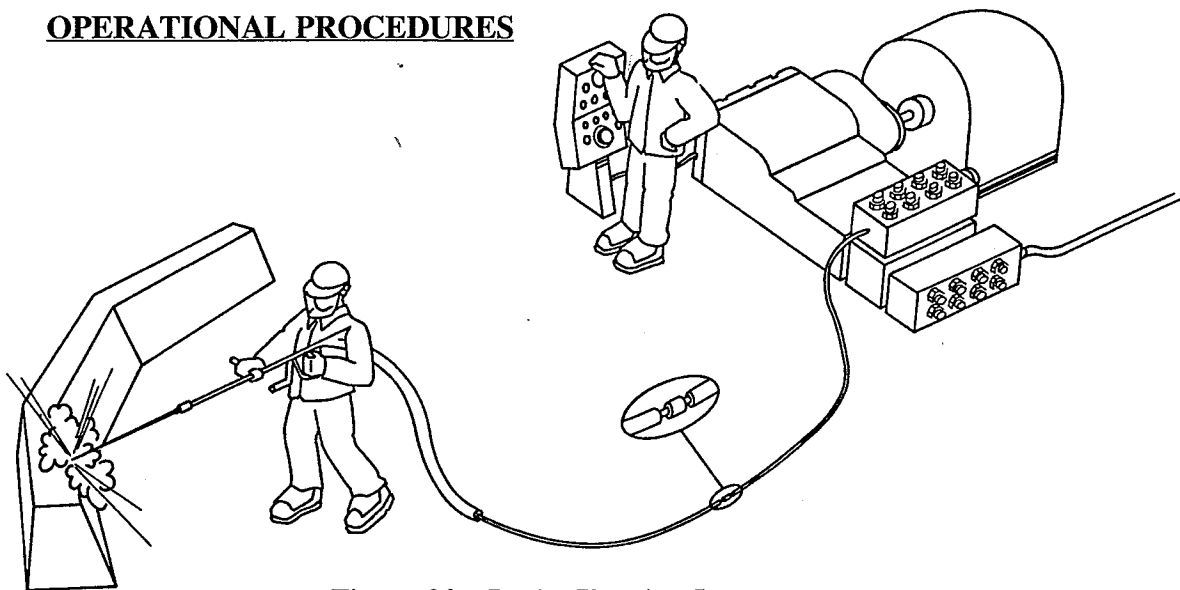

Figure 20. Basic Cleaning Layout
10.1.1 **Start up** - The Pump Operator **shall** not start the unit (Figure 20) until told to do so, by word or signal, by the Nozzle Operator. Before bringing the unit up to pressure, on a second signal the Pump Operator **shall** ensure that the jetting nozzle is either directed at, or positioned within, the workpiece; that the Nozzle Operator has a secure stance and control of the nozzle; and that each team member is in the proper position to perform their task.